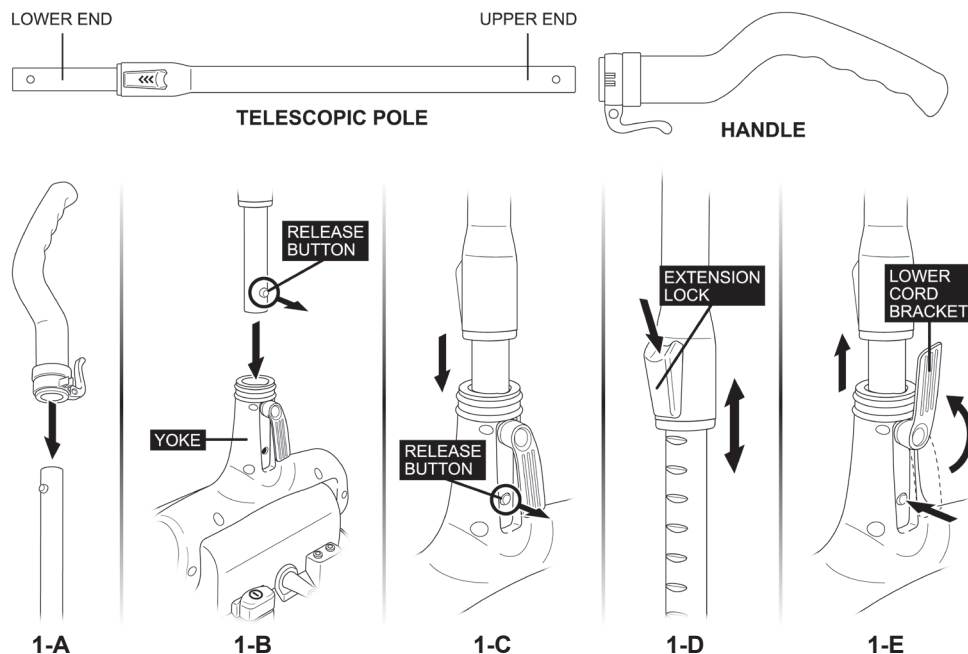

FIGURE 1
1. Connect Handle to upper (thicker) end of Telescopic Pole. To do this, simply slide Handle onto Pole until it snaps in place (FIGURE 1-A).
2. Insert lower (thinner) end of Telescopic Pole into yoke on top side of Mop Head. When inserting, make sure release button located on Pole faces towards back side of yoke as illustrated (FIGURE 1-B).
3. Press Telescopic Pole into yoke until release button snaps through small hole on back side of bracket (FIGURE 1-C). Pole should now be secured to Mop Head.
4. To adjust length of Telescopic Pole, press Extension Lock downward. While holding Lock down, move the upper section of Pole until it is at the desired length (FIGURE 1-D). Release Lock, then adjust upper section of Pole again until it "clicks" securely into place.
5. To disconnect Telescopic Pole, swivel lower Cord Bracket 180° upward, then press firmly on release button while simultaneously pulling Pole away from Mop Head yoke (FIGURE 1-E).